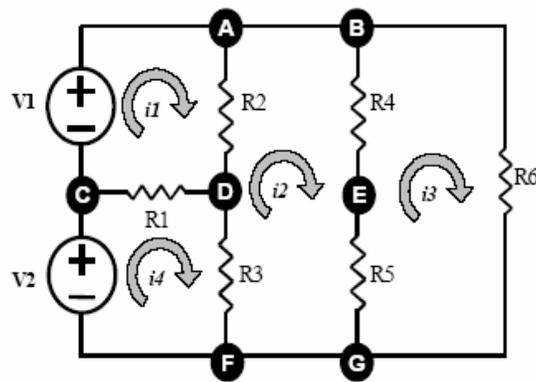

Figure 3-2
The mesh-current method permits the description of a circuit in terms of  $b - (n_e - 1)$  equations. Figure 3-2 shows a circuit suitable for analysis with the mesh-current method. In this circuit five essential nodes ( $n_e = 5$ ) and eight essential branches ( $b_e = 8$ ) can be identified, therefore  $b - (n_e - 1)$  four mesh-current equations describe the circuit. The equations are formulated by applying KVL to each mesh, expressing the voltages across the elements on the mesh currents. Once the equation system is solved and the mesh currents are known, all the branch currents (and any other parameter of interest) can be calculated.
a. Assemble the circuit in Figure 3-2 with the component values shown in Table 3-3.
Determine the experimental values in circuit Figure 3-2 by using superposition